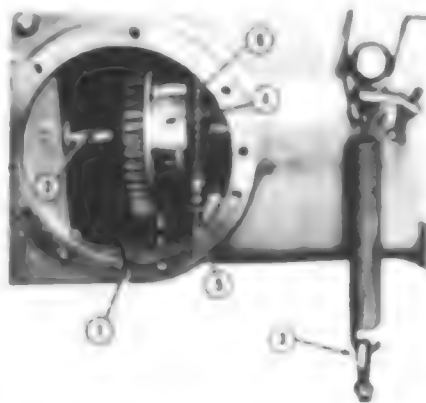
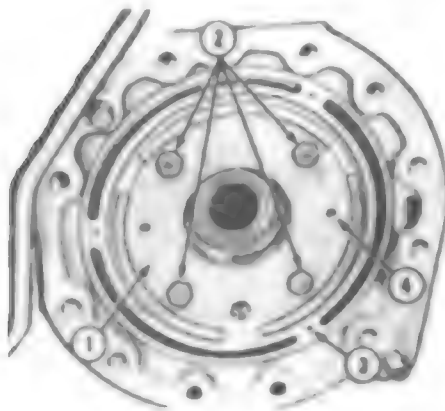

Fig. 87 - View of pto clutch, pump drive gear, lower pto drive shaft and lube pump gear on Models 684, 784 and 884. Lube pump is not used on Model Hydro 84.
Fig. 88 - View showing screw holes for removing the brake piston and jack screw holes for removing carrier. Refer to test.
On all models, disconnect pto control valve linkage and range transmission linkage. Drain "Hy-Tran" oil from transmission and rear frame. Unbolt and remove hydraulic lift assembly. Attach split stand to hydrostatic drive or clutch housing and support rear frame with a floor jack. Remove rear wheels, then unbolt and remove rear axle assemblies. Remove pto clutch cover on right side of rear frame. Refer to Fig. 87 and drive roll pin from rear of clutch assembly and lower pto drive shaft. Remove the bearing cap on rear of tractor and move lower pto drive shaft (2) rearward out of pto clutch assembly. Remove clutch (4) and snap ring from rear of gear (6), then remove gear. Separate rear frame from hydrostatic drive or clutch housing. Remove the final drive planetary shafts and note that right shaft is longer than left shaft. Remove brake disc, then install screws in tapped holes of brake piston (3 - Fig. 88) and pry equally around edge with a screwdriver to remove the piston. Remove the differential lock shaft and fork.
Attach hoist to the differential, remove bolts (2 - Fig. 88) and install jack screws in tapped holes (4). Remove bearing retainers, keeping the shims with the retainer for reassembly. Lift the differential from rear frame.